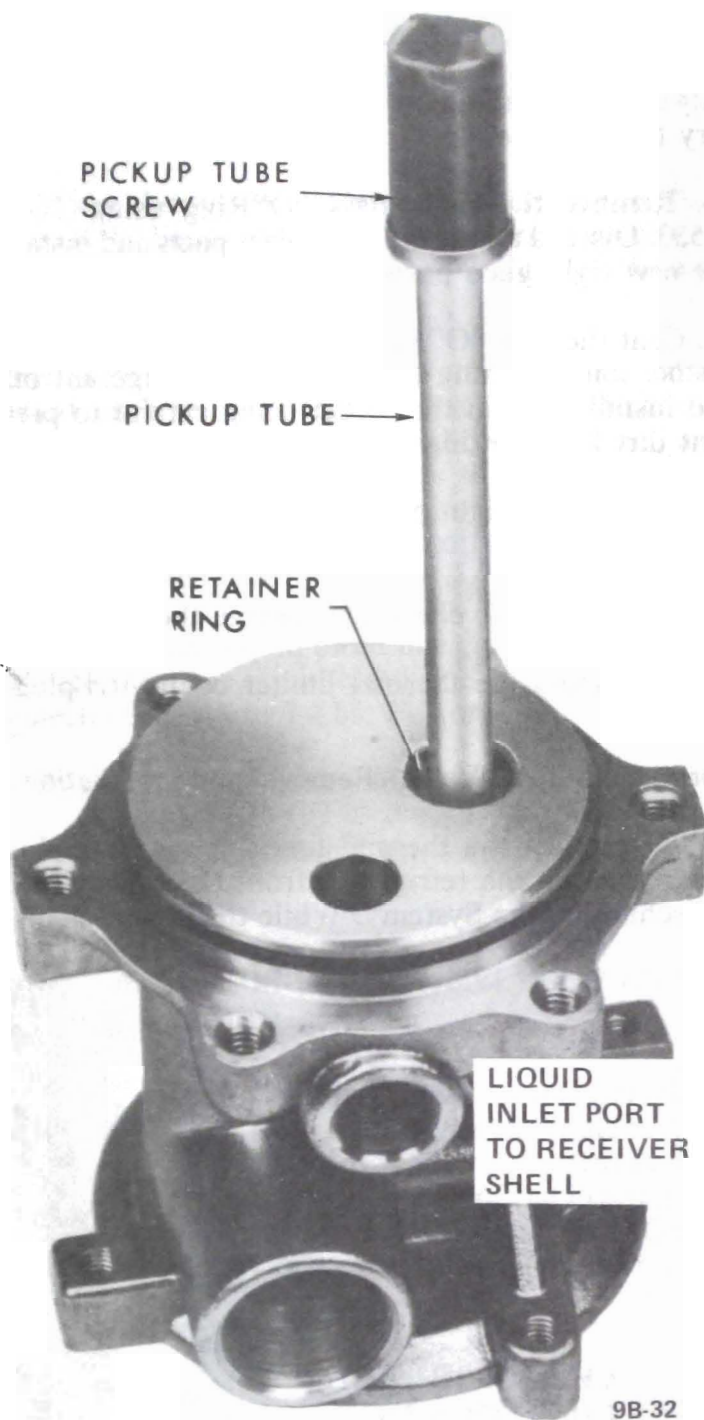

Figure 9B-36 Pick-Up Tube Assembly to Valve Housing
14. Using tool J24182-3, install the pickup tube into the valve housing. Be sure the tube is bottomed in the opening and the tool vertically in line before seating the tube retainer in place. Visually check the seating of the retainer ring tangs and that no tang fractured during the installation. See Figures 9B-36 and 9B-37.